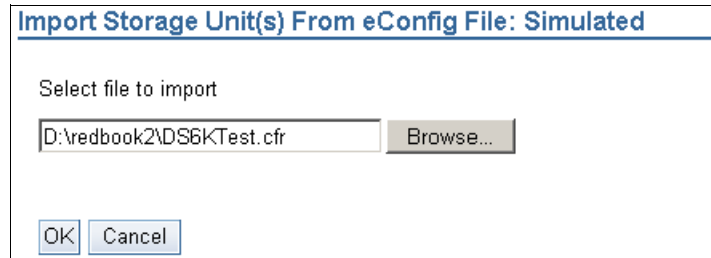

Figure 12-9 Importing an eConfig file
1. You will be prompted for a file to import. You need to select a file with a cfr extension, as shown in Figure 12-9.